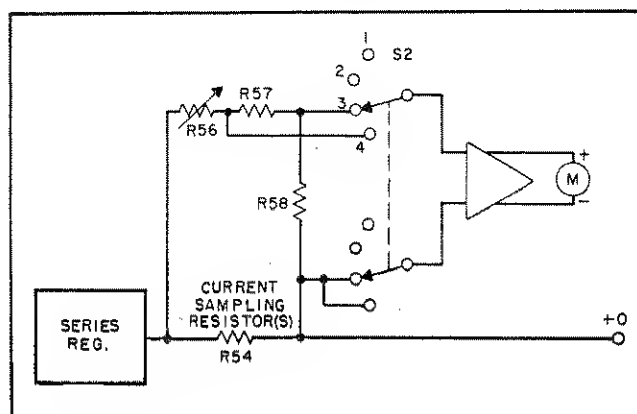

Figure 4-4. Ammeter Connections, Simplified Schematic
4-41 As illustrated in Figure 4-4 with the METER switch in the high current position (3) the voltage drop across R58 is applied to the meter amplifier and the meter indicates the output current which flows through the sampling resistor network. For low values of output current, the METER switch can be set to position 4 and the voltage drop across R57 and R58 is applied to the meter amplifier.